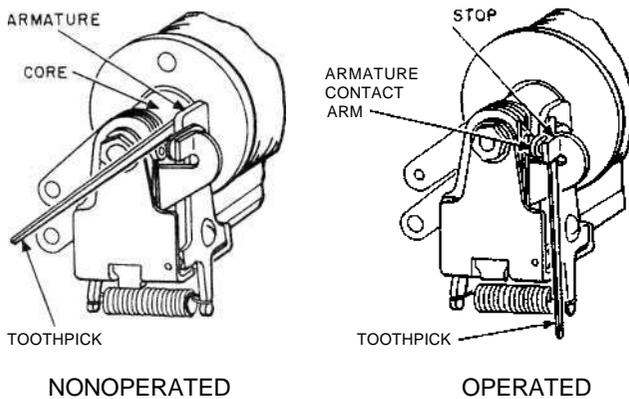

Fig. 21—Blocking 208- and 214-Type Relays
3.18 **208- and 214-Type Relays:** Fig. 21—Block relays nonoperated by inserting the flat end of a toothpick between the armature and the core. Block relays operated by inserting the flat end of a toothpick between the armature contact arm and the backstop. Insert the toothpick from below, taking care to insert it behind the contacts.